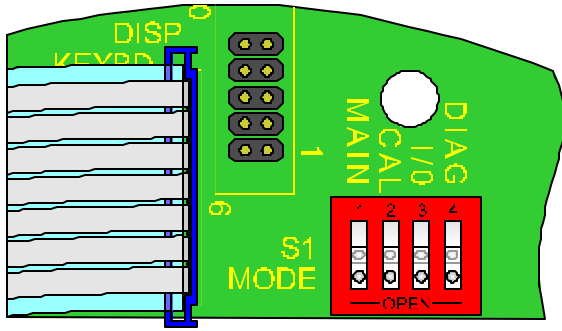

Figure 4-8, Dipswitches
- On dip switch **S1** (mode), located in the front right corner of the PCB, close switch 2 to enter the **CAL** mode. *See Figure 4-8.*